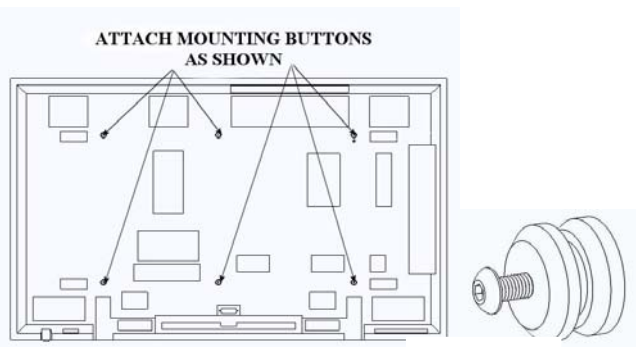

Figure 2
1. Attach mounting buttons to plasma using six M8 x 20 cap screws provided for each mounting button (Figure 2).